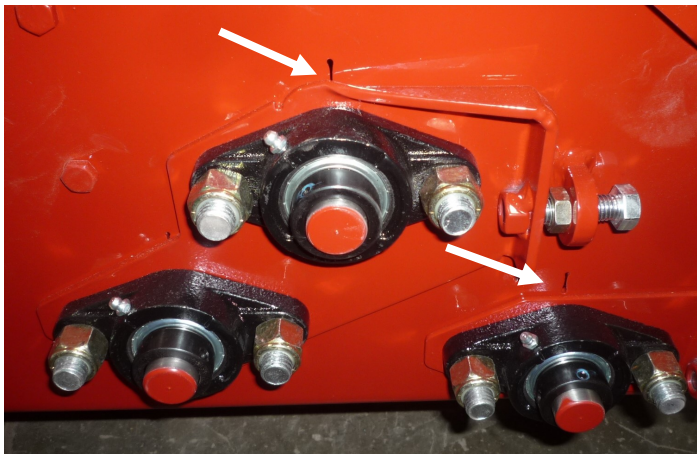

Figure 5.1
2. If the belt is out of alignment, the belt will move towards the tight side. Reset the alignment by loosening the jam nut and moving the adjuster on the tight side so as to loosen the tension on the belt. Note that the tension of the belt should be checked prior to this step so that a loose belt is not further loosened. Conversely, if the belt is loose, tighten the end of the intake roller away from where the belt is tracking. Continue to adjust the tension and alignment until the belt is tracking satisfactorily. Alignment adjustment is available on both the intake and discharge rolls - adjust the roll where the greatest misalignment appears. Tightening in the direction in figure 5.1 will move the belt towards you.